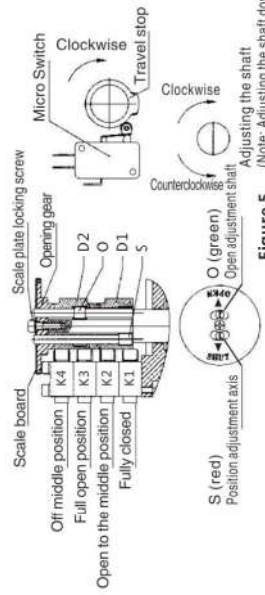

Figure 5 (Note: Adjusting the shaft down to unlock the adjustment)
1. Adjustment of micro-adjustable electrical limit (Figure 5)
① Full-close adjustment: first use the handle to drive the valve to the full position, loosen the scale plate locking screw, adjust the scale plate, point the pointer to the tick mark 0 (SHUT direction), and tighten the scale plate locking screw. Then, the small screwdriver will adjust the closing adjustment axis S clockwise (Note: adjust the axis to press the unlocking adjustment), drive the stroke block D1 to rotate clockwise to trigger K2 and K1 to move and make a sound, and K1 will make a sound. Stop adjusting the closing adjustment axis S.
② Full open position adjustment: first use the handle to drive the valve to the full open position, so that the pointer points to the scale line 0 (OPEN direction) and then adjust the open position adjustment axis O counterclockwise with a small slotted screwdriver (Note: Adjust the shaft down pressure to unlock the adjustment), driving the travel stop D2 counterclockwise rotation triggers K4, K3 to operate in sequence and sounds, and stops adjusting the open adjustment axis O when K4 moves and makes a sound.